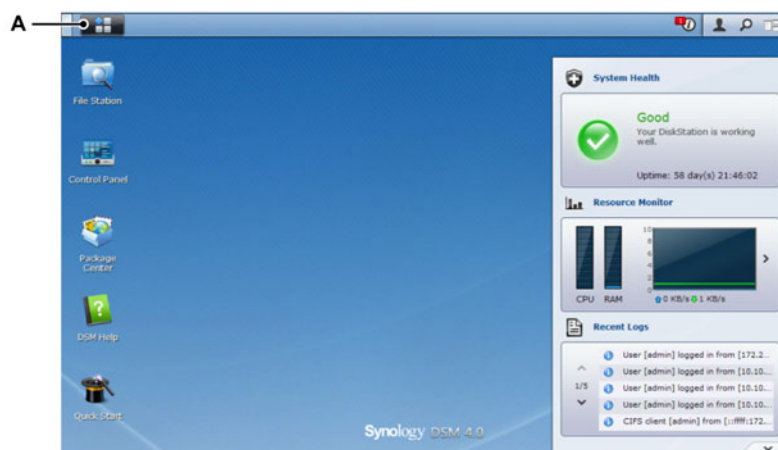

Figure J.3: Home screen
- 5 When logged in and on the home screen, click the main-menu icon (A) as shown in the following Figure J.3.